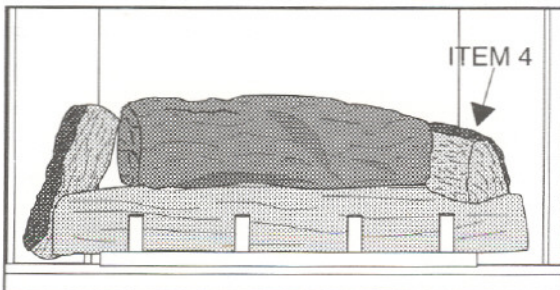

Figure 56
5. See Figure 56. A second small, thin log (Item 4) is installed next. Position this log with the "bark" to the right. This log is placed with the front edge resting on the front log and the back edge resting on the Burner Pan Assembly.